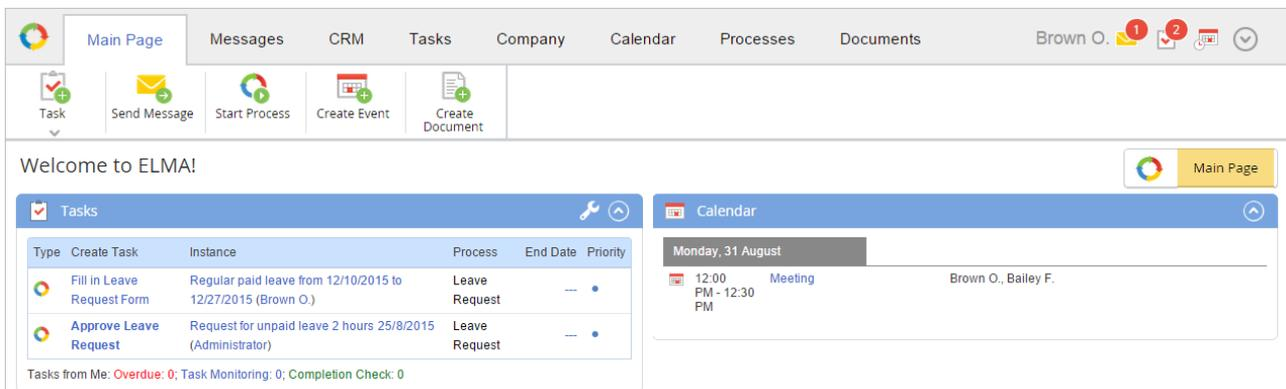

Fig. 190. Lite Interface
**Lite** interface is a special simplified interface created for the users who work with a limited number of functions. A too complex interface is only an obstacle for such users (Fig. 190).